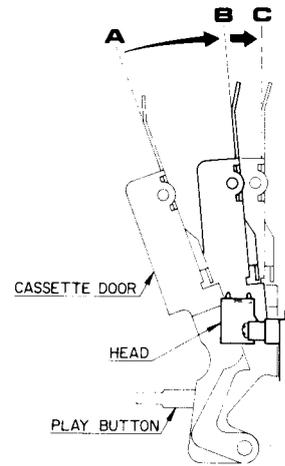

Fig. 2
- b. Close the cassette door slowly by hand. Make certain that the PLAY pushbutton will not move in the range of the position A to B in Figure 2 while the cassette door is closed.